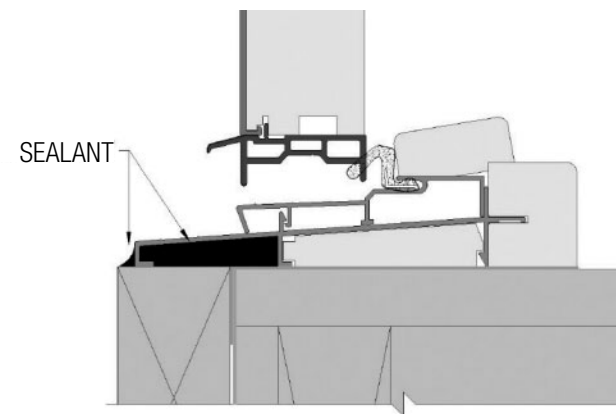

FIG. 18: OUT-SWING SILL
- C) For in-swing and out-swing patio doors: Apply silicone to seal each end of the sill cavity that protrudes from the rough opening, including handicap sill. (Fig. 18 & 19)